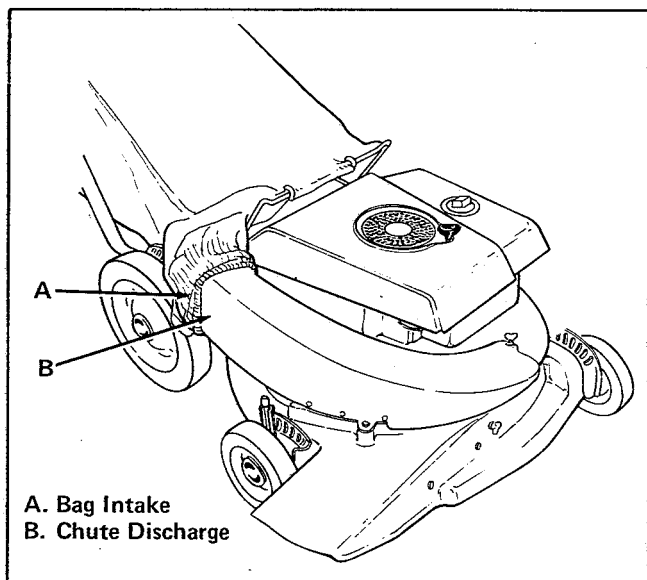

Figure 22. Installing Bag to Chute
7. Slip bag intake (item A, figure 22) over discharge end of chute (item B). The elastic end of the bag will secure bag to discharge chute.
1. Pull off intake end (item A, figure 22) and lift bag from mower using handles (item B, Figure 21).
1. Remove bag and grass catcher chute (see figure 22) if installed.